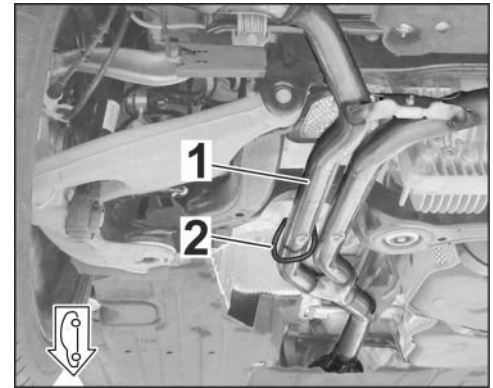

Figure 7
- 1.3.3 Secure the exhaust pipe with a suitable securing device (e.g. strap, load securing device or hook) to prevent it from folding down (⇒ *Figure 7*).